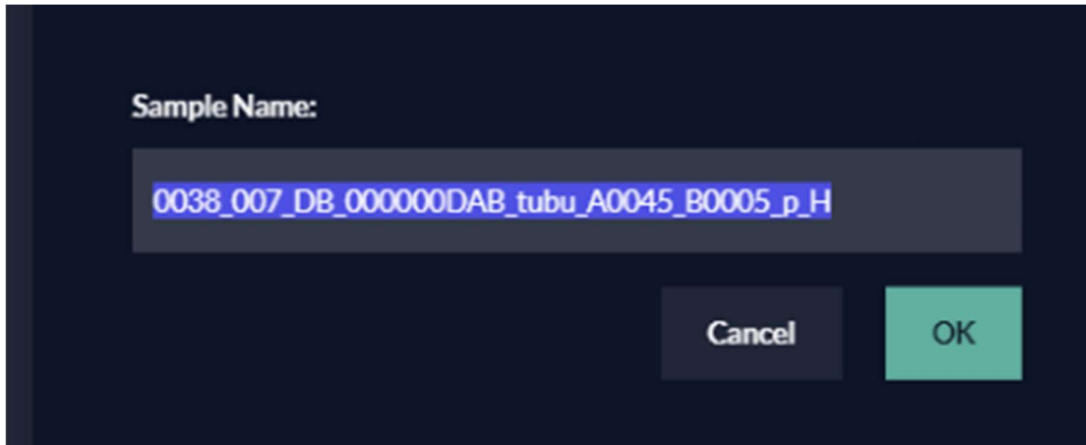

Figure 6-17 Sample Name main window.
2. Click **OK** to apply the changes (*Figure 6-17*).